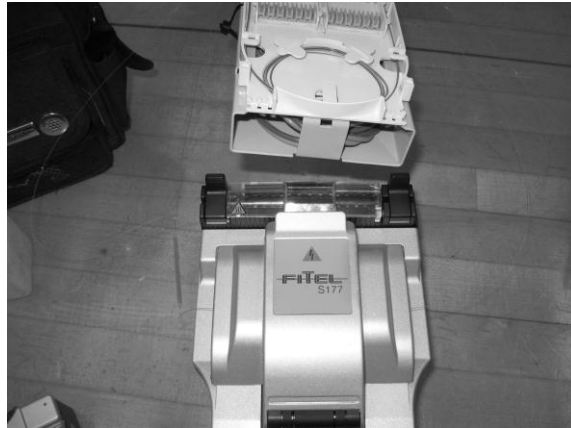

Figure 17 – Splice the fibers.
4.25 Fiber Splicing: If not already done, fusion splice all fibers. Position the fusion splicer near the top of the closure and route the individual fibers from the splice tray to the fusion splicer (Figure 17).